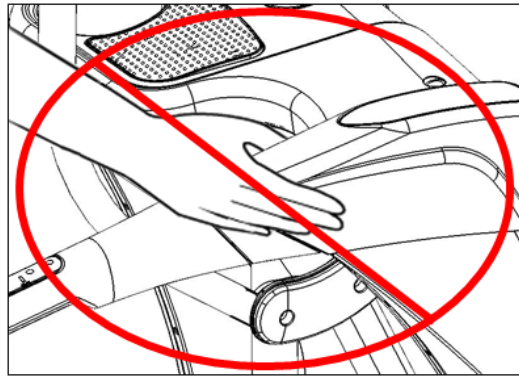

Fig 2
- Avoid placing hands on the upper side rail covers while elliptical is in operation (See Fig 2)